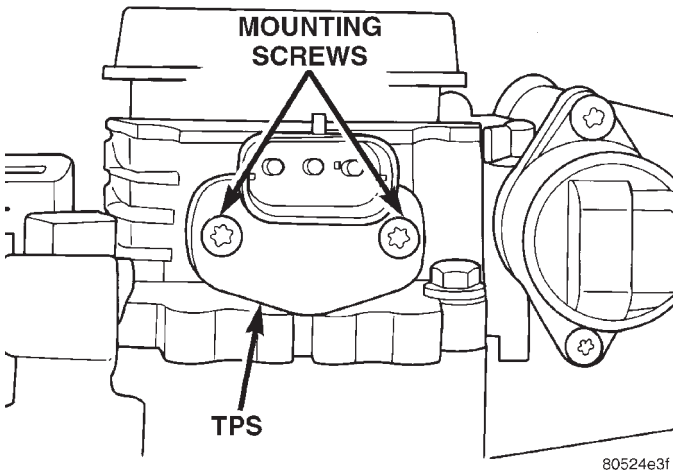

Fig. 67 TPS Mounting Screws—4.0L Engine
- (1) Disconnect TPS electrical connector.
- (2) Remove TPS mounting screws (Fig. 67).
- (3) Remove TPS.